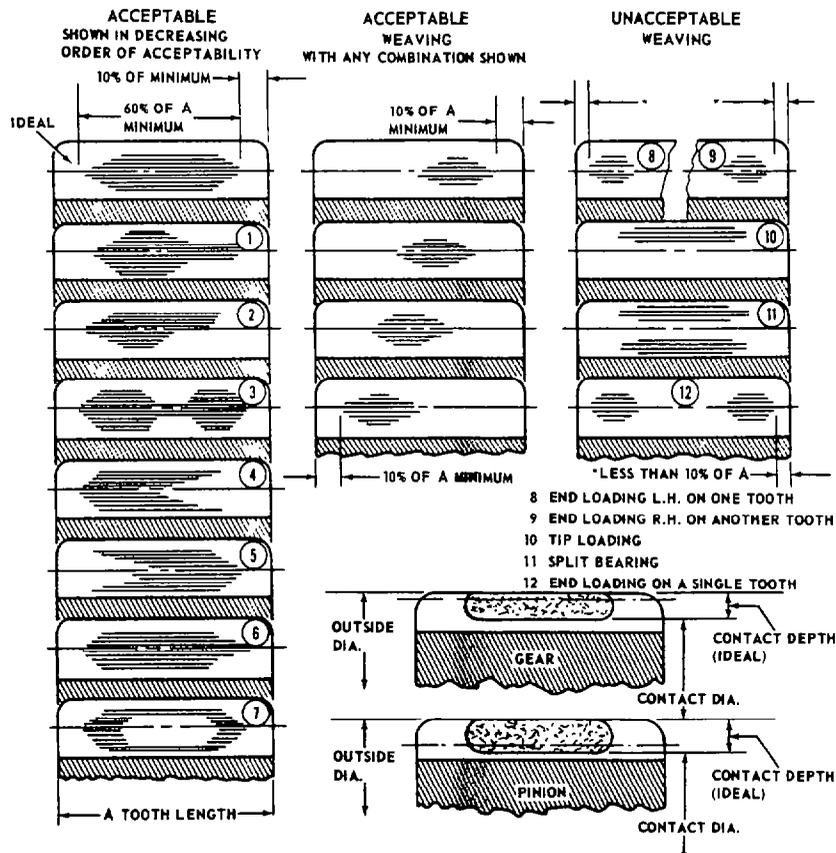

Fig. 340 — Tooth Contact Patterns
- u. Rotate the bull gear in forward and reverse directions to determine the tooth contact pattern. The contact pattern must be within the limits shown in fig. 340 on both the drive and coast sides. Because there are no adjustments, if it is determined that the tooth contact pattern is not acceptable, both the bull gear and helical pinion shaft must be replaced as a matched set. After establishing the correct tooth pattern, the assembly of the differential is complete.